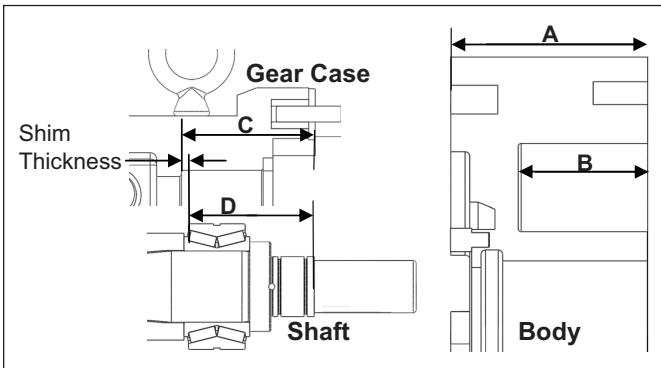

Figure 47. Calculating Shims
3. Shims located on the shaft behind the front bearing control the backface clearance of the pump; the space between the body and the rotor. If neither the shafts or bearings are being replaced, use the shims (if properly marked) removed at disassembly and reuse making sure they are installed in the correct bores. If replacing shafts or bearings, a process of calculating the required shims is necessary. Use *Figure 47* and the following equation to calculate. To find the correct backface clearance see *Table 10*, page 41.